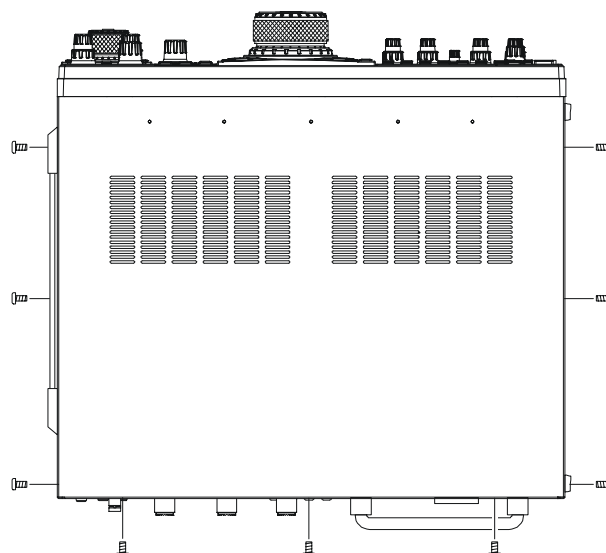

Figure 1
2. Referring to Figure 1, remove the three screws from each side of the transceiver, and three screws from the top edge of the rear panel. Slide the top cover toward to the rear about 1/2 inch (1 cm), then remove the top cover.